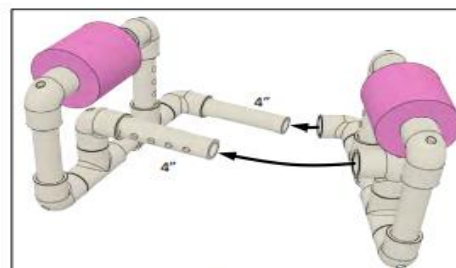

Figure 22
- Connect the two frame side sections using a 4" long pipe and 4" long thruster mounting pipe as shown in Figure 22.